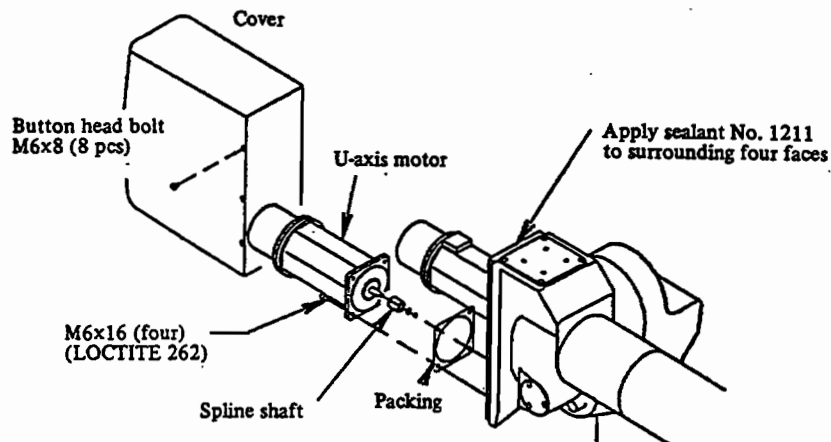

Fig. 5.5 Replacing U-axis motor (S-10)
- ① Press the U-axis against the mechanical stop or support the axis so it cannot move.
- ② Remove the U-axis motor cover, U-axis cover, and then the U-axis motor connector.
- ③ Remove four M6x16 bolts and the motor.
- ④ Remove the hexagonal bolts from the motor shaft, and pull out the input spline.
- ⑤ After replacing the motor, reassemble reversing the above procedure. Apply LOCTITE lightly to bolts, nuts and pins removed in steps ③ and ④. Tighten bolts with the specified torque. (See Fig. 5.5)